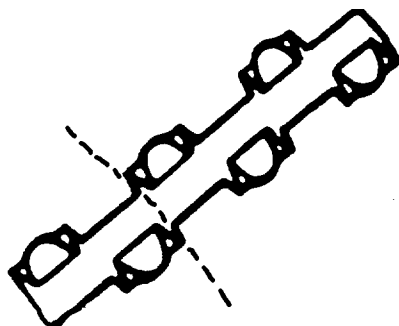

Figure 19. Cut Grommet
33. **NASM22529 Description.** An illustration of the grommet is provided in Figure 19. The grommet is a green, epoxy coated stainless steel strip with teeth (castles) staggered on each side of the strip. From center to center the castles are 0.15 inches apart. The surface, opposite castles is a gray elastomer cushion used to reduce the abrasion characteristics of the hole or edge on which the strip is mounted. The strip is secured on the edge of the hole by separating the castles (spring loaded) when pressing on the strip.
f. Cut the grommet between the castles at a 90° angle as shown in Figure 19. To assure the absence of deformation of adjacent castles close to the cut-off, be sure to grip both sides of the cut.
g. Cut the grommet at a 45° angle as shown in Figure 19.